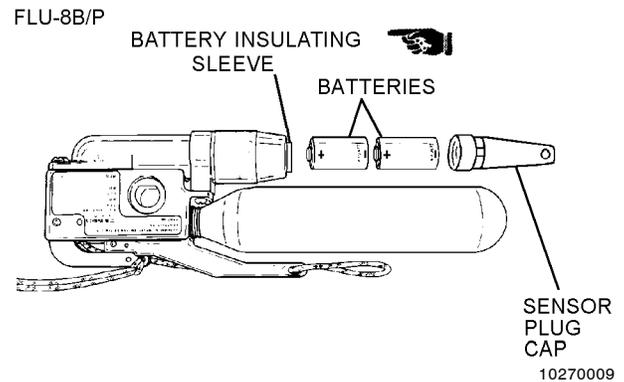

Figure 27-9. Battery Installation Arrangement
4. Install batteries in accordance with figure 27-9.